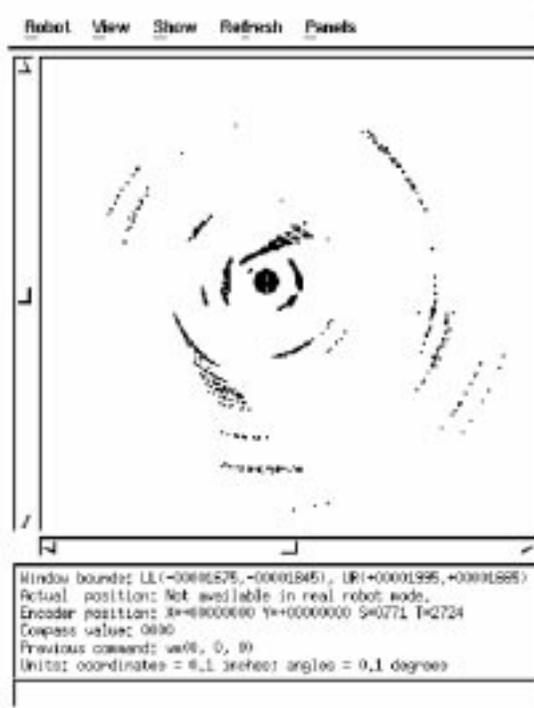

Figure 3.6 Surroundings of the robots as shown by traces
- Using the soft joystick, rotate the robot by moving the dot on the horizontal axis, left or right: sensing data will be accumulated, and the surroundings of the room the robot is in will start to appear as in *Figure 3.6*.